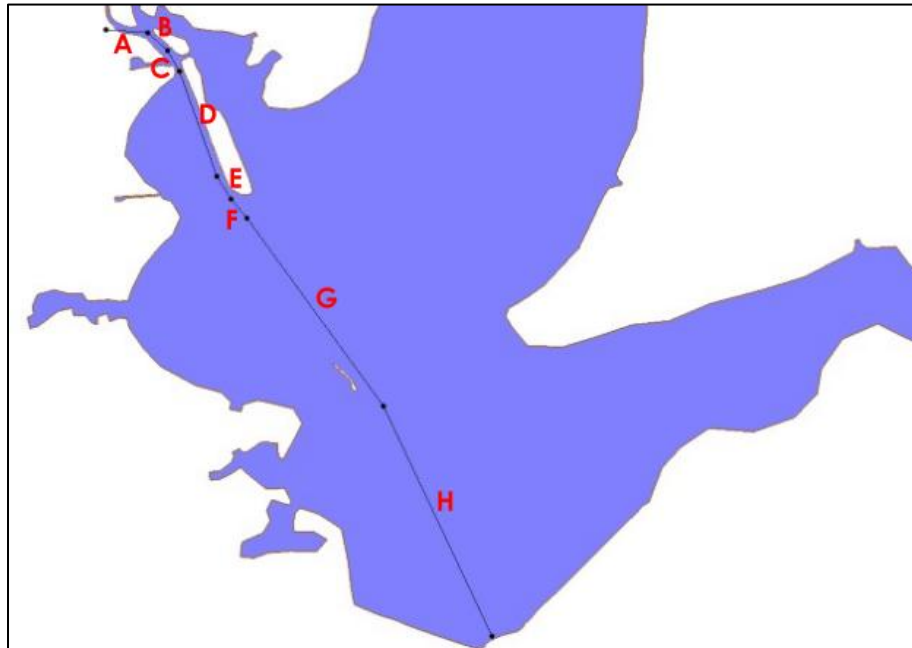

Figure 4 Third boat path with labeled arcs
10. Using the **Create Feature Arc**  tool, create 8 arcs as shown in Figure 4.
- Right-click the top leftmost arc (labeled A in Figure 4) and select **Assign arc attributes...** to open the *Arc Properties* dialog.
- Right-click the second topmost arc (labeled B in Figure 4) and select **Assign arc attributes...** to open the *Arc Properties* dialog.